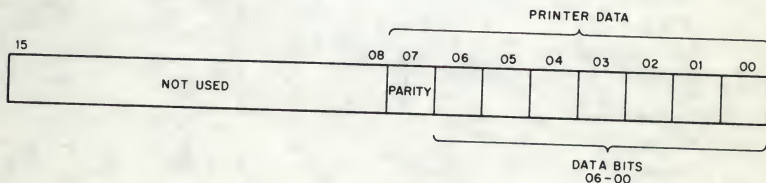

Figure 5 LAV11 DBR Bit Assignments
**Data Buffer Register (DBR)** — The address of the DBR is 177516 and the register contains the data being processed by the system. The data bit assignments on the register are shown in Figure 5; the bit assignments are described in Table 4.